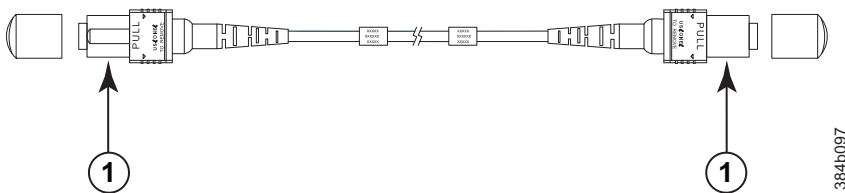

Figure 13. QSFP to QSFP standard cables
- QSFP to QSFP standard cables (Figure 13)